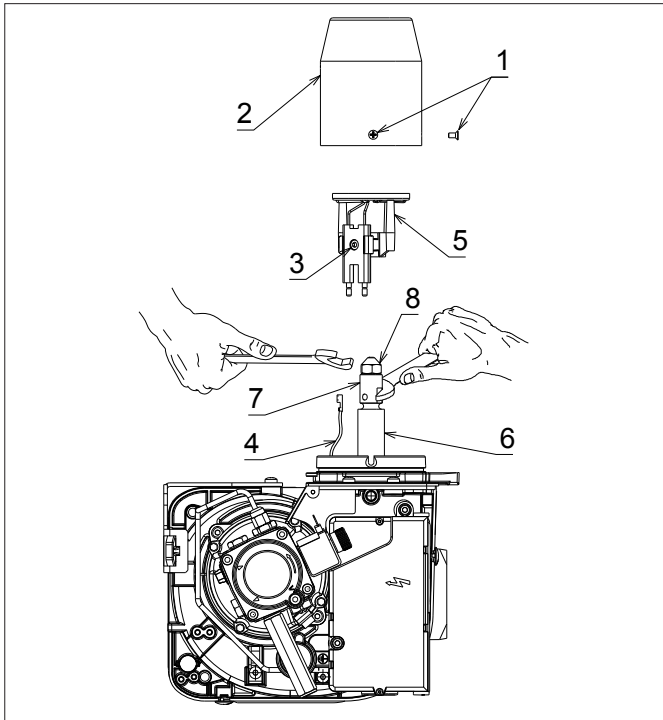
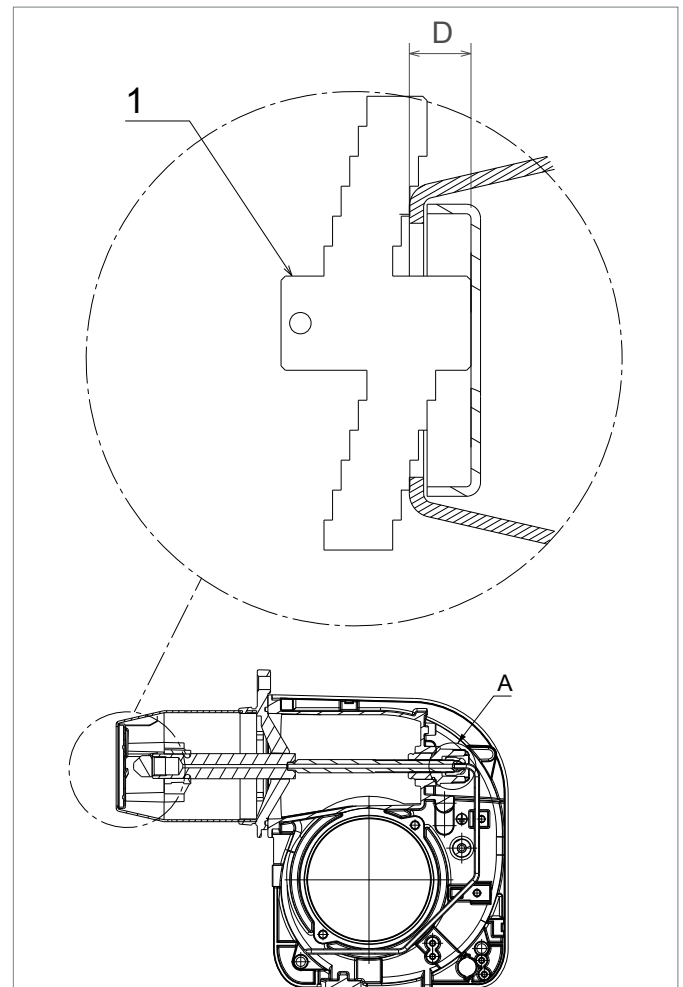

Figure 16-2: Burner head, diffuser and nozzle holder
Figure 16-4: Riello RDB 2.2 BX diffuser position and gauge plate
1. Remove the burner head. Refer to Figure 16-2. Loosen the three fixing screws (1) and remove head (2) from burner.
3. If the nozzle needs to be replaced - remove the diffuser/electrode assembly. Refer to Figure 16-2.
- Using a 4 mm Allen key, loosen the diffuser fixing screw (3) on the electrode assembly.
- Lift diffuser/electrode assembly (5) up and off the nozzle holder.
- Disconnect both ignition leads (4) from the electrodes.
4. Use a 16 mm spanner to remove/re-fit the nozzle (8), whilst holding the nozzle holder (6) using a 19 mm spanner.
5. Re-fit the diffuser/electrode assembly. Refer to Figure 16-2.
- Reconnect ignition leads (4) to electrodes.
- Re-fit the diffuser/electrode assembly (5) onto the nozzle holder lining up the fixing screw with the recess in the nozzle holder.
- Tighten the fixing screw (3) to secure the diffuser/electrode assembly in place on the nozzle holder.
7. Re-fit the burner head. Refer to Figure 16-2.
- Locate the head fixing screws (1) in the countersunk slots in the burner collar.
- Tighten the three screws (1) to secure the head (2) in position on the burner.
8. Adjust the diffuser position. Refer to Figure 16-4.
- Position the gauge plate on the burner head as shown in Figure 16-4.
- If necessary, adjust distance D using the black adjustment knob located around the oil supply pipe on the front of the burner. Refer to item A (Figure 16-4). Re-check distance D using the gauge plate, as described above.